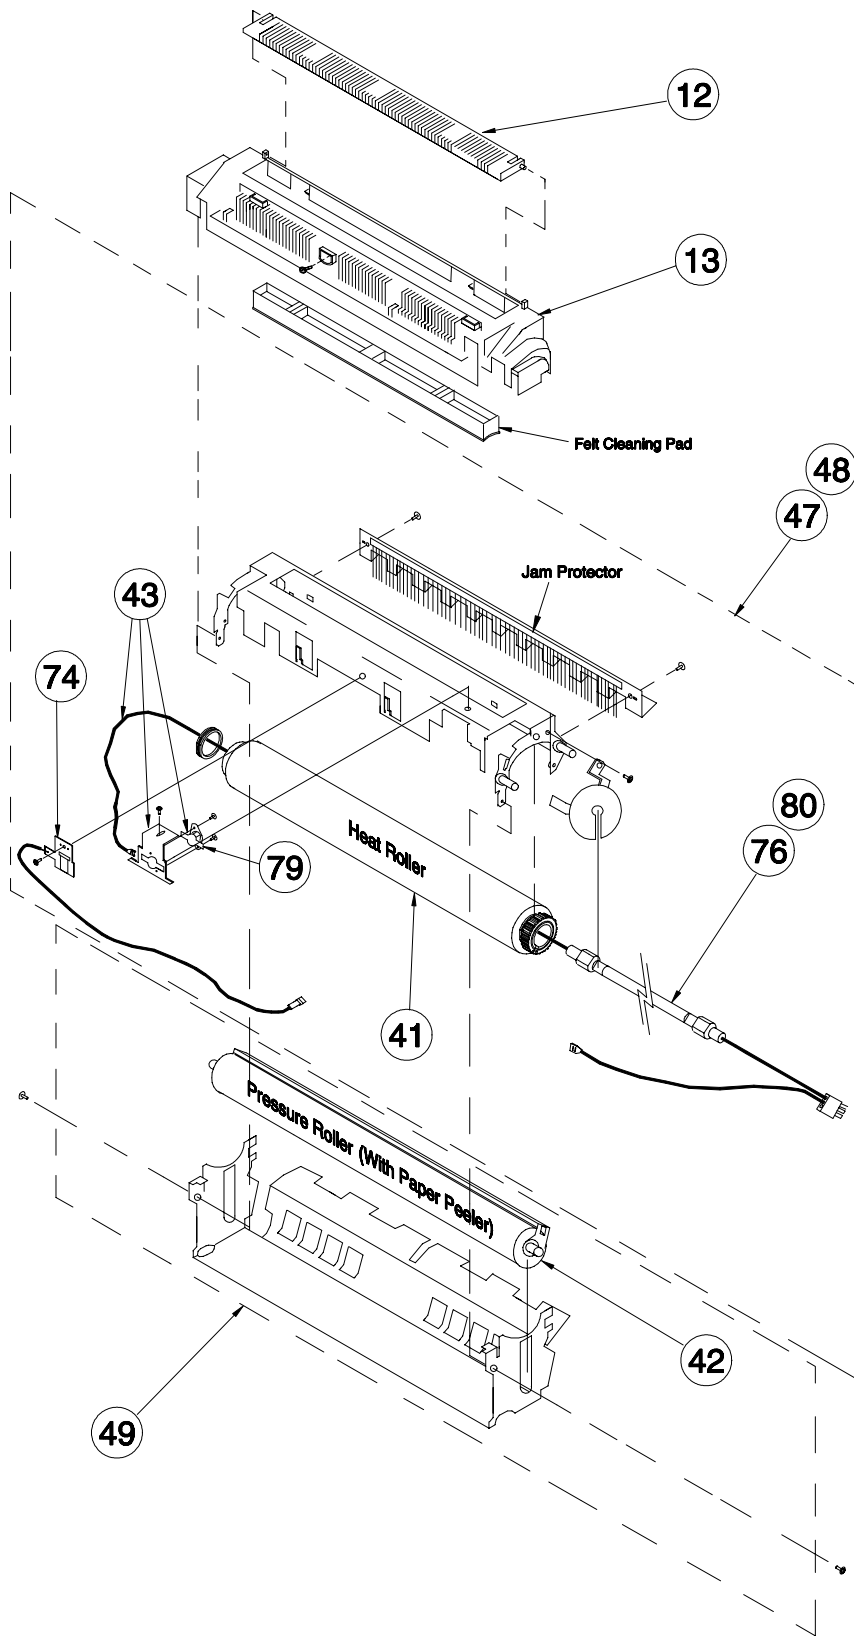

Figure 4b. Fuser Heater & Pressure Assembly
** See Figure 4b for disassembly of fuser heater & pressure assemblies.